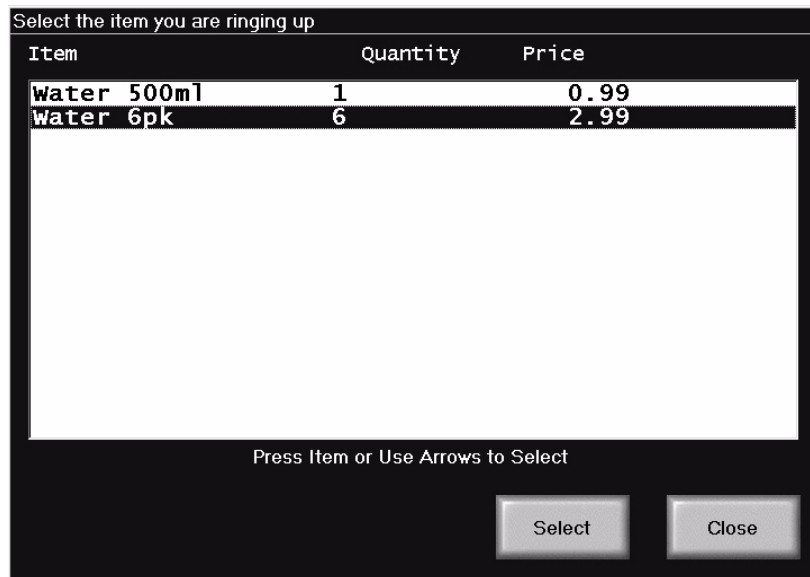

Figure 10-15 Product Selection Screen for Multi-Pack Programming
- When the cashier scans the SKU from the side of one of the items in the six pack, the selection screen prompts the cashier to choose whether the item is being rung up is the single or the multi-pack. See Figure 10-15.